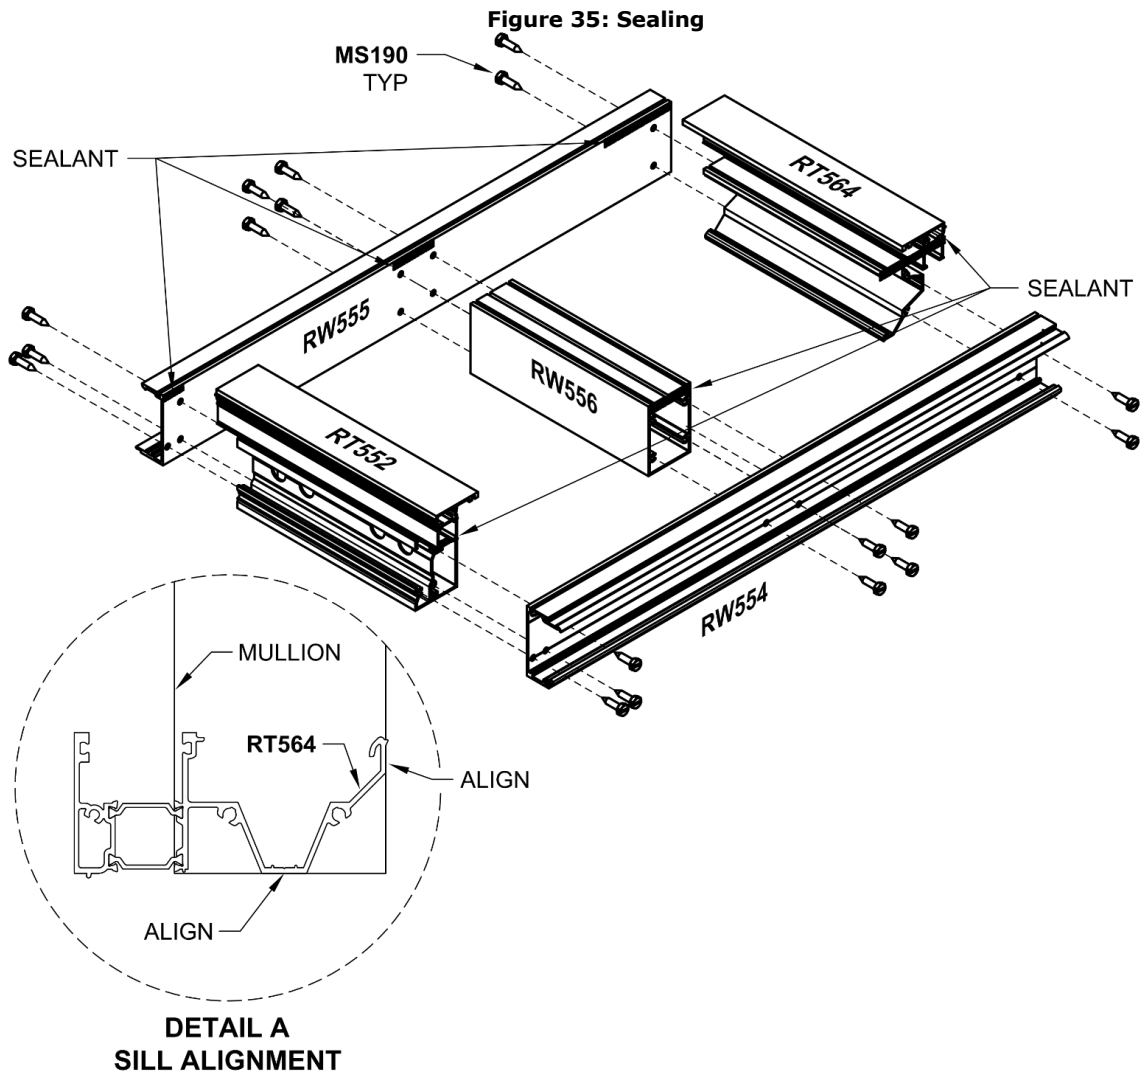

Figure 36: Pre-glazed SSG Assembly
- 12.3.9 *Figure 36, Detail A*.
- 12.3.11 *Figure 36*.